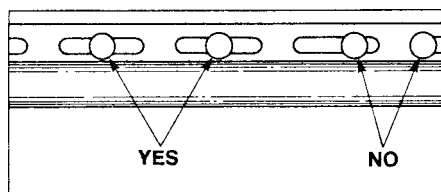

FIG. 7 Fastening Location in Siding Slots
9.1.2 Center fasteners in slots of siding and accessories to permit possible expansion and contraction. (See Fig. 7.)